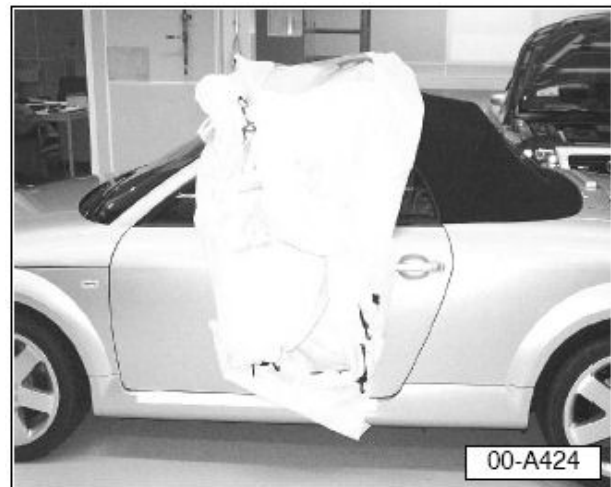

Figure 14. Allow cover to rest on roof.
14. Allow cover to rest on roof of vehicle while folding sides up (Figure 14).